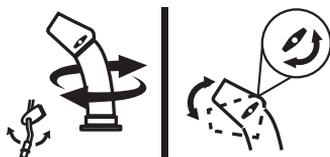

Figure 65
- To change the direction in which snow is thrown, rotate the control (Figure 65).